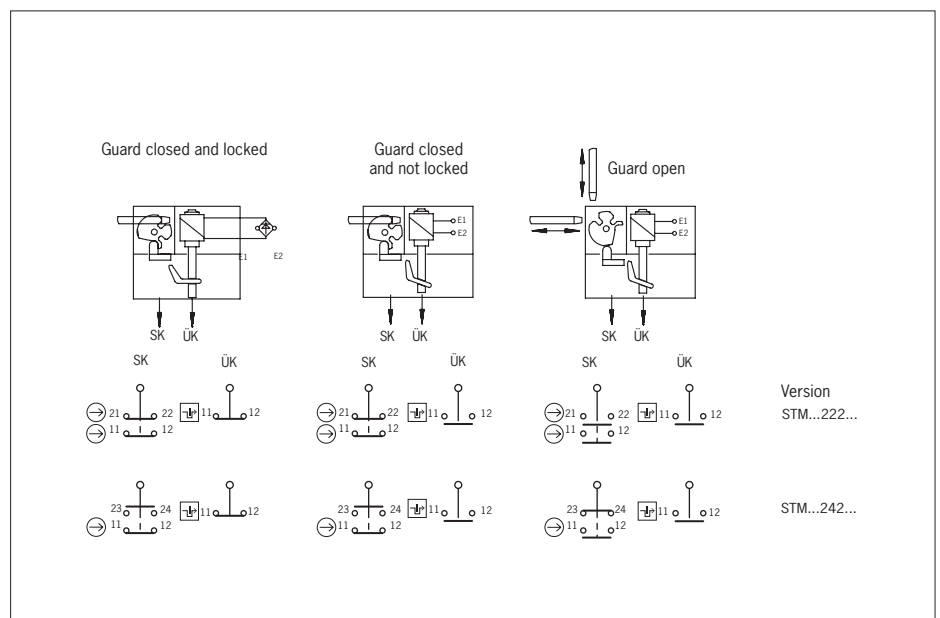

Fig. 4: Switching elements and switching functions
- Connect and tighten terminals with 0.5 Nm (for terminal assignment, see Fig. 4).